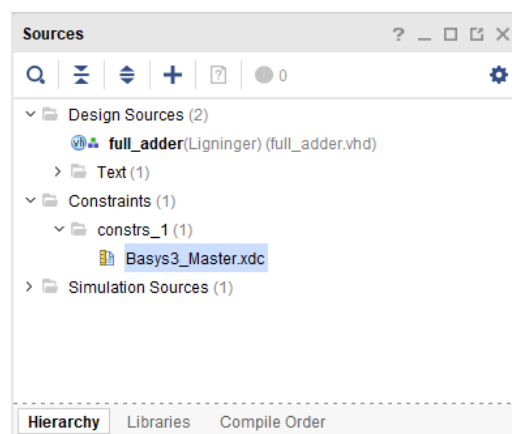

Figure 14 Constraints file location
2. Under the window "Sources" open the folder "Constraints->constrs\_1" and double-click on the newly added file "Basys3\_Master.xdc" to edit it as shown in Figure 14.